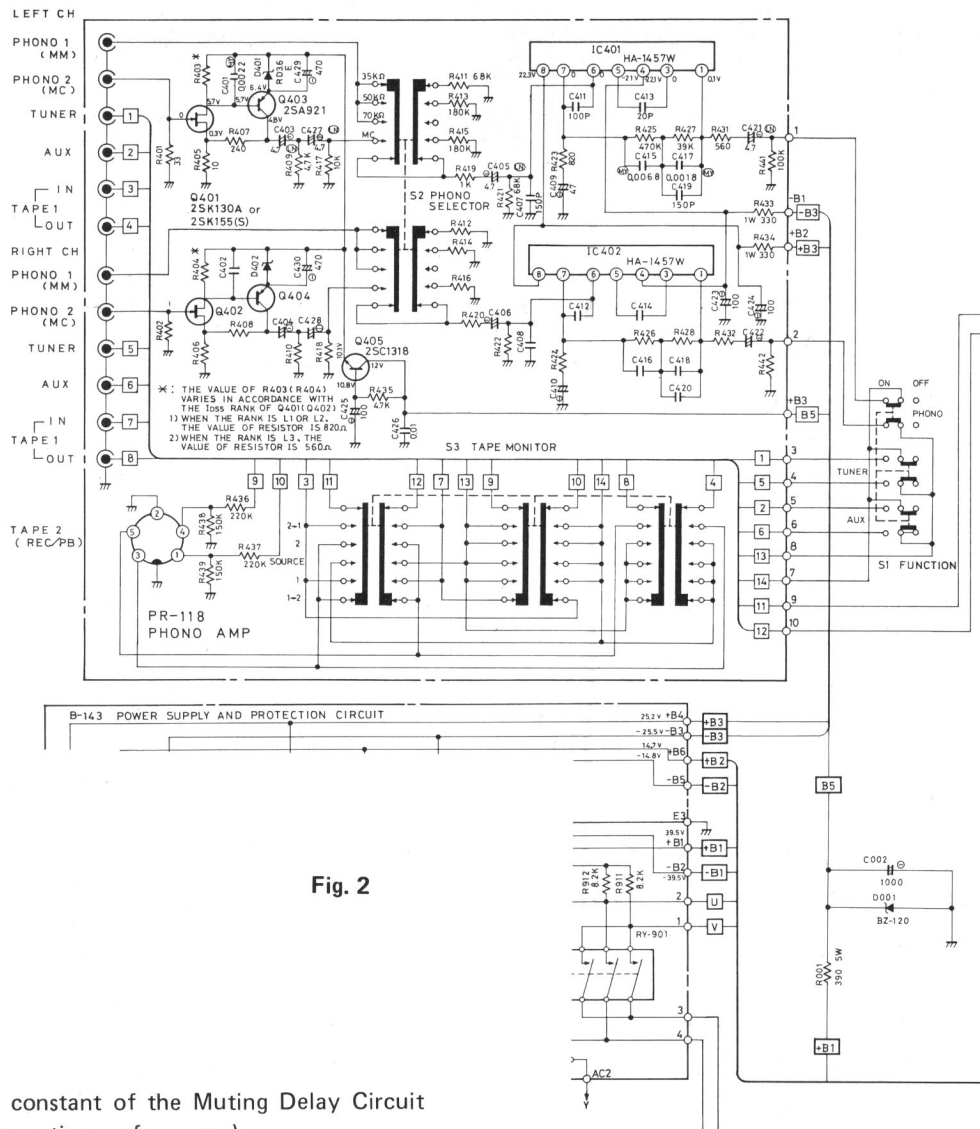

Fig. 2
- MC Head Amp Circuit is added to the Phono Amp Circuit. The Phono Circuit with built-in MC Head Amp is the same as that of the RC-1000. Because of this modification, the capacitors C423, and 424 on the Phono Amp Circuit is changed to 100mfd. +B Circuit is partly modified. Fig. 2 shows the modified and related portion.
- 2) Because of the change in (1), R403 and 404 are specified as 820 ohms only.
- 3) Electrolytic capacitors C429 and 430, 470mfd, are added in parallel with D401 and 402. (See Fig. 2 Phono Amp Circuit for RA-1000).